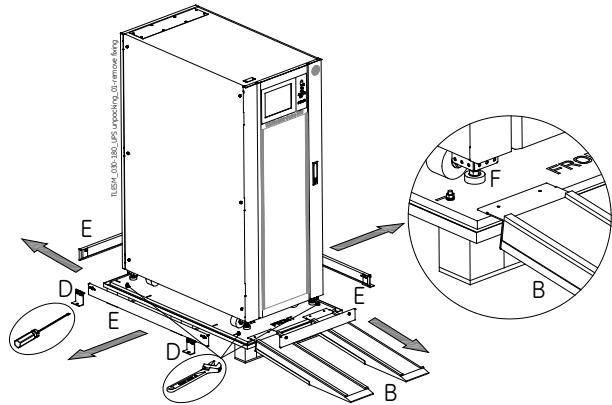

Fig. 4.5.1-4 Remove the 4 angle irons
11. Push the UPS towards the ramp "**B**" and let it slide down the ramp (see Fig. 4.5.1-5).